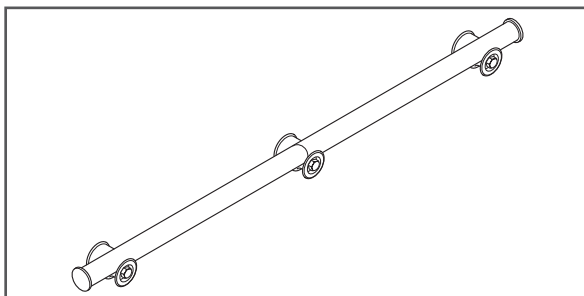

Figure 3
4. When installing the tube track, rotate the track so the set screws are facing the wall. For maximum strength, ensure a track support is supporting spliced sections (Figure 3).